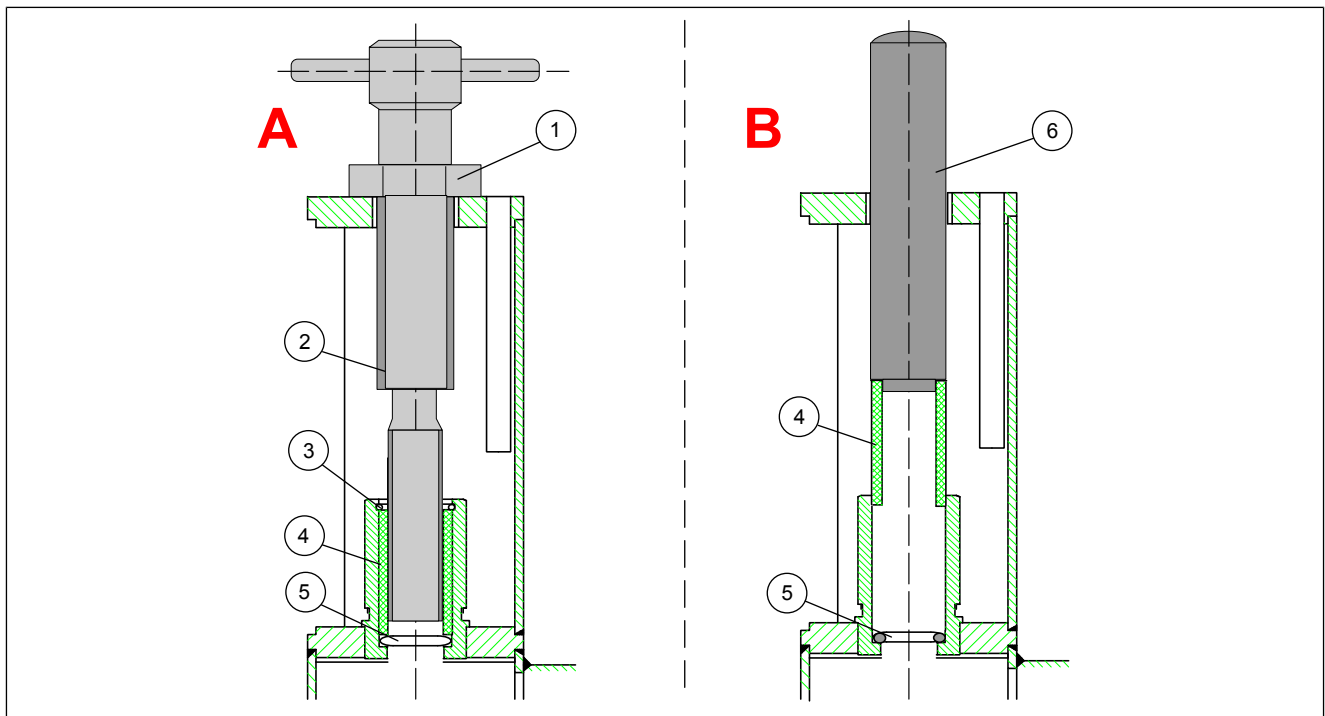

Fig. 20. Installing the bearing bushing and O-ring: 1 - nut, 2 - tool, 3 - packing socket, 4 - bearing bushing, 5 - O-ring, 6 - push bar.
2. Remove the packing socket (Fig. 20, part 3) with a screwdriver.
5. Remove the PTFE bearing bushing (F) with the extracting tool, as shown in Fig. 20. Before removing, make sure that the nut on the tool is screwed fully down. The end of the tool contains a screw pin. Using the arms on the tool, screw it into the bearing bushing as shown in Fig. 20. Then pull the bushing out of its casing by turning the nut (Fig. 20, part 1).
6. Check the condition of the gasket (G) and replace it if necessary.
7. Using the push bar (Fig. 20, B), press the new bearing bushing (F) in so that the packing socket goes into the bottom.